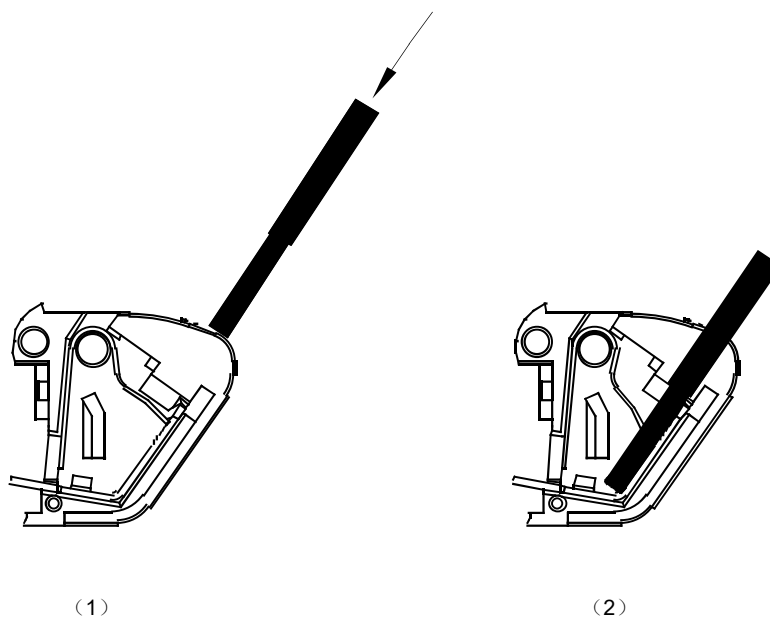

Figure 4
- The method of Wiring as shown in figure 4.